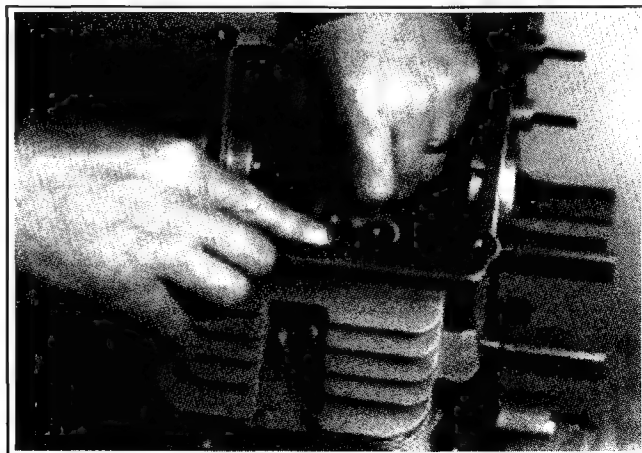

Figure 11-1. Compress Valve Springs and Install Keepers.
5. Compress valve springs and install valve keepers. See Figure 11-1.